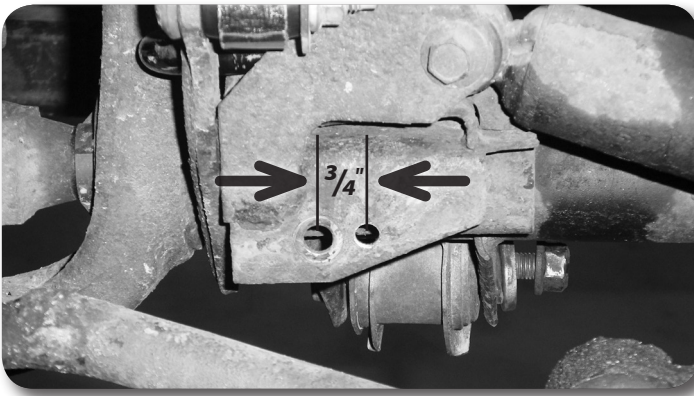

Figure 6
19. Locate the factory track bar mount on the passenger's side of the axle. Measure from the center of the original track bar mounting hole  $\frac{3}{4}$ " toward the driver's side and mark. Drill a  $\frac{13}{32}$ " hole at the mark through the front and back faces of the track bar mount **Figure 6**. This will be the new mounting point for the track bar. Do not install the track bar at this time.